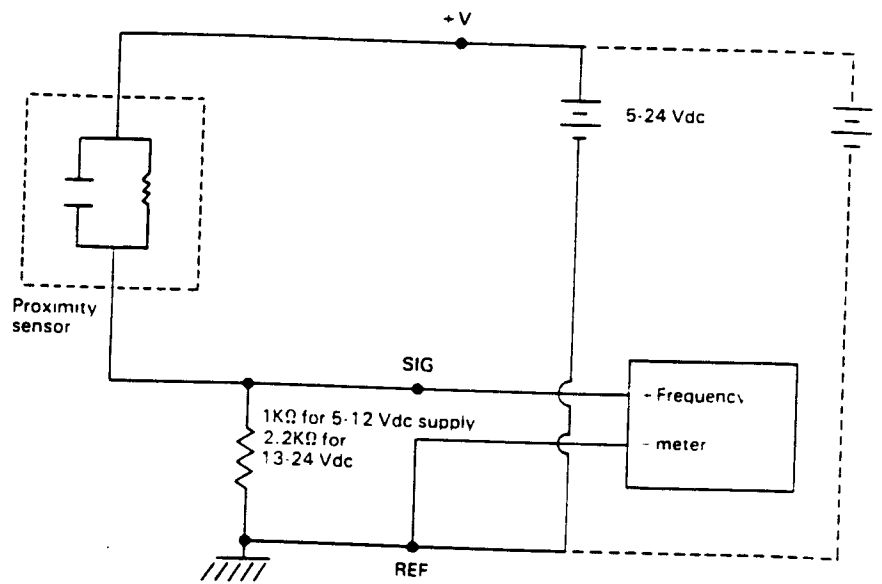

Figure 2-5. Wiring of Pulse Output to Receiving Instrument
2.3 WIRING (Refer to Figure 2-5)